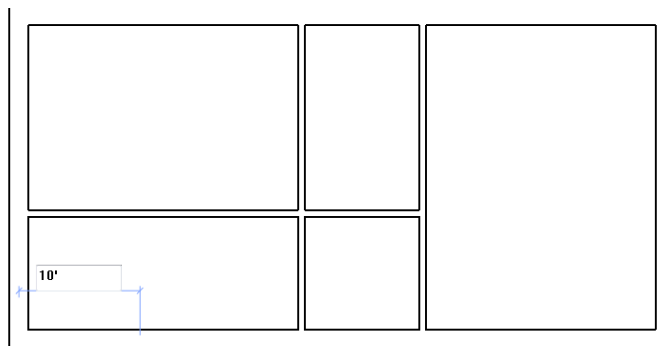

Figure 3-62 Sketching the interior walls of the bath
- Similarly, move the cursor near the lower left corner and then move it horizontally toward the right. When the temporary dimension and the intersection object snap appears, enter the value **10'0"**, as shown in Figure 3-62, and then press ENTER.